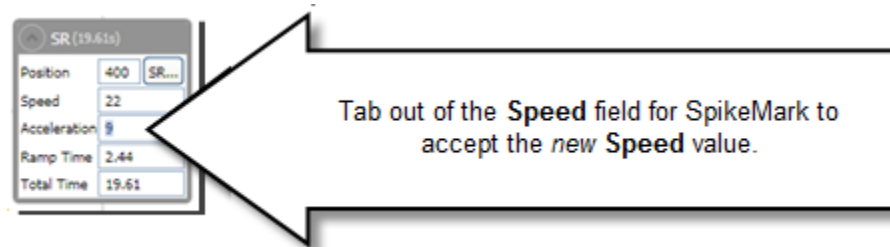

Figure 221
2. Enter in a new **Speed** value and press the **Tab** key. (Figure 221).